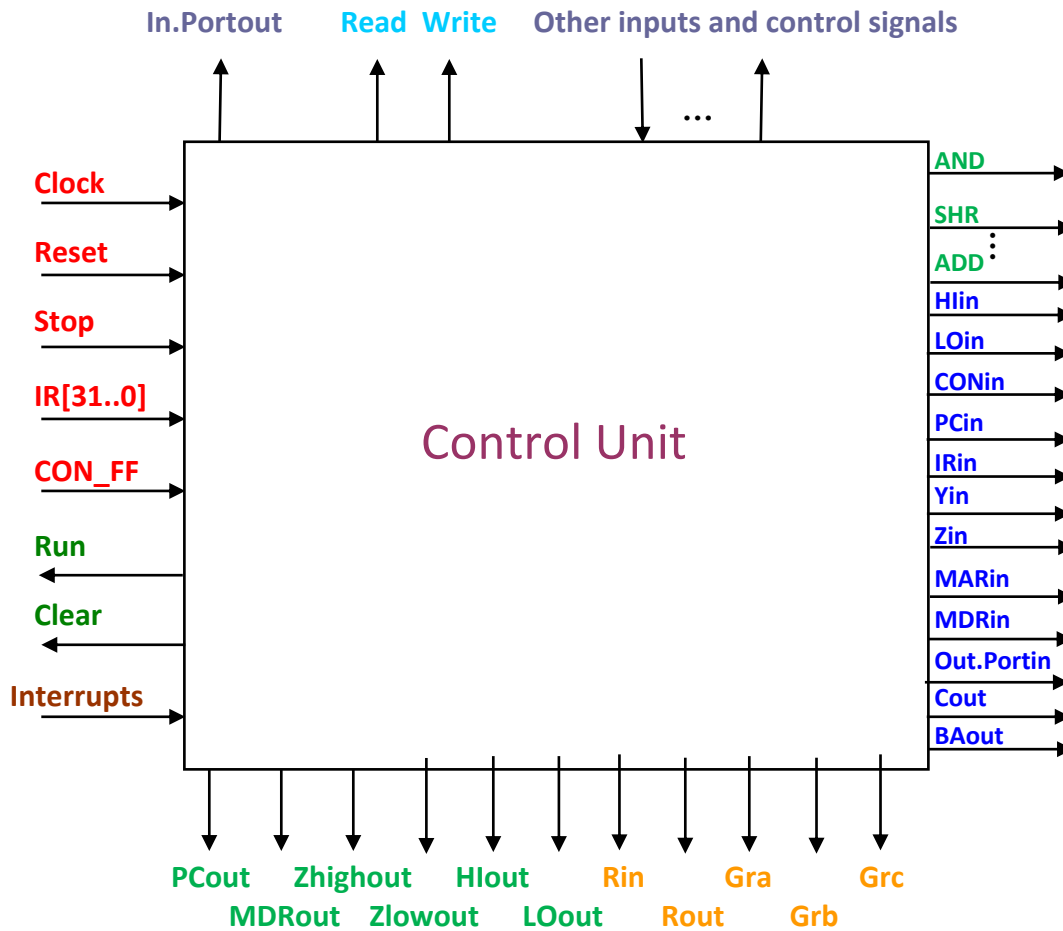

Figure 5: Block diagram of the Control Unit
Figure 5) will enforce the required operation. These control signals include *ADD, SUB, MUL, DIV, SHR, SHRA, SHL, ROR, ROL, AND, OR, NEG, and NOT* control signals, among others. Note that in Phase 1 and Phase 2, you simulate such control signals. The Z register holds the result of the operation in ALU and will be able to drive the Bus in the next clock cycle when the bus is free. The Z register is 64-bit long to hold the result of a multiplication (product) or a division (remainder in the higher byte, and quotient in the lower byte) operation temporarily before loading the *HI* and *LO* registers. You may need a multiplexer between the Y register and the A input of the ALU for any other potential input. You may also need to include a simple circuitry (such as a multiplexer) between the ALU output C and the Z register. Depending on the current instruction in the Instruction Register, *IR*, this logic selects the output of one of the ALU units to drive the Z register.
**2.2 Control Unit:** The Control unit is to be designed in Phase 3. However, a block diagram is provided in Figure 5 for a better understanding of the Datapath. The Control Unit is at the heart of the processor. It accepts as inputs those signals that are needed to operate the processor and provides as outputs all the control signals necessary to execute the instructions. The outputs from the Control Unit are the control signals that we use to generate **Control Sequences** for the instructions of the Mini SRC.